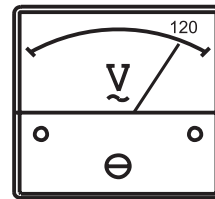

Figure 48. Voltmeter
6. The generator's **AC voltmeter gauge** (Figure 48) will display the generator's output in **VOLTS**.